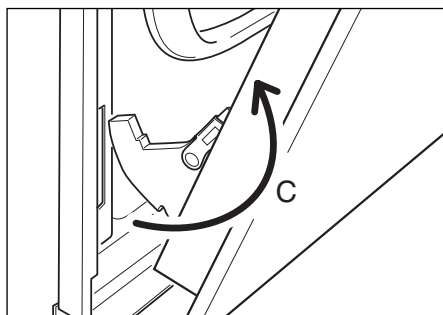

Fig. 25d
- Gently close the door until left and right hinge levers "A" are hooked to part "B" of the door (Fig. 25d).